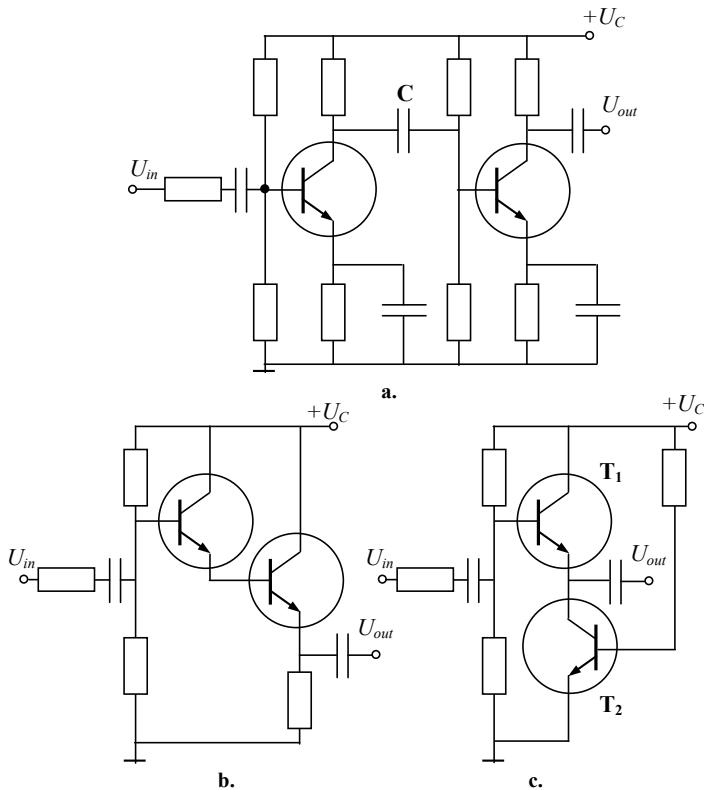

Fig. 2.14
**Two-stage ac amplifiers.** To obtain higher voltage gain of an amplifier, one can connect two stages, as shown in Fig. 2.14,a. This is called a stage *cascading* and means the amplified voltage out of the first transistor is coupled into the base of the second transistor. The second transistor then amplifies the signal, so that the final signal is much higher than the input signal. The capacitor **C** insulates the collector of the first transistor from the base of the second transistor.
To raise the current gain and the input resistance, the emitter follower is built by cascading of two transistors. Fig. 2.14,b shows a method of emitter follower cascading where the current is amplified twice and  $\beta = \beta_1 \beta_2$ .
**Cascode amplifier.** The circuit in Fig. 2.14,c is called a *cascode amplifier* that is an amplifier with the same dc current flowing through both devices. Here, the bottom transistor  $T_2$  having CE connection plays a role of an active load for the top CB-connected transistor  $T_1$ , therefore, the input impedance of the amplifier is raised. The common-base resistive divider defines the dc mode of operation, whereas the coupling capacitor determines the ac mode. Here,